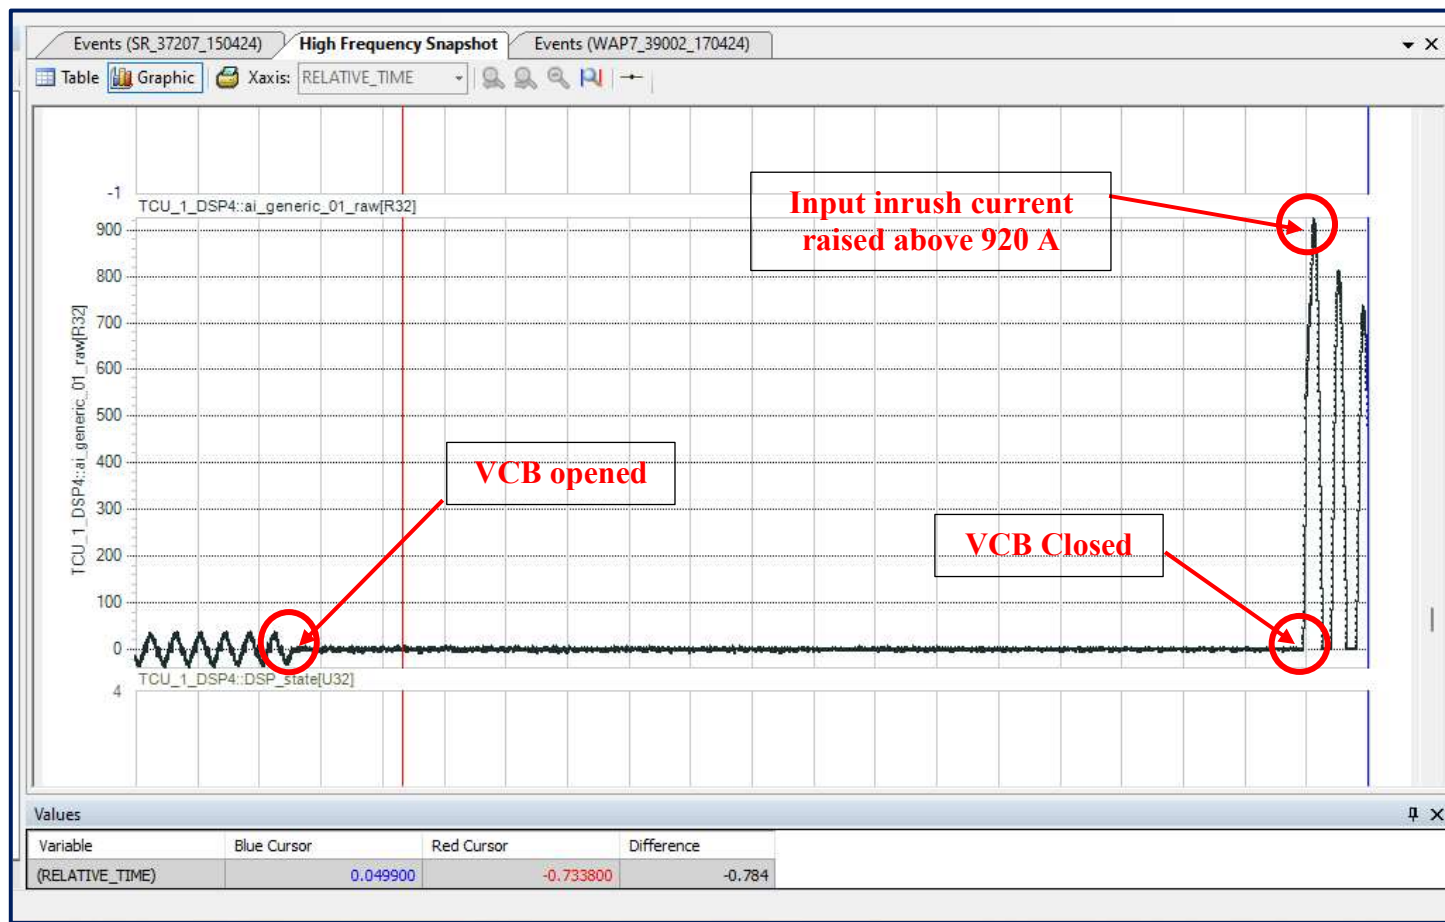
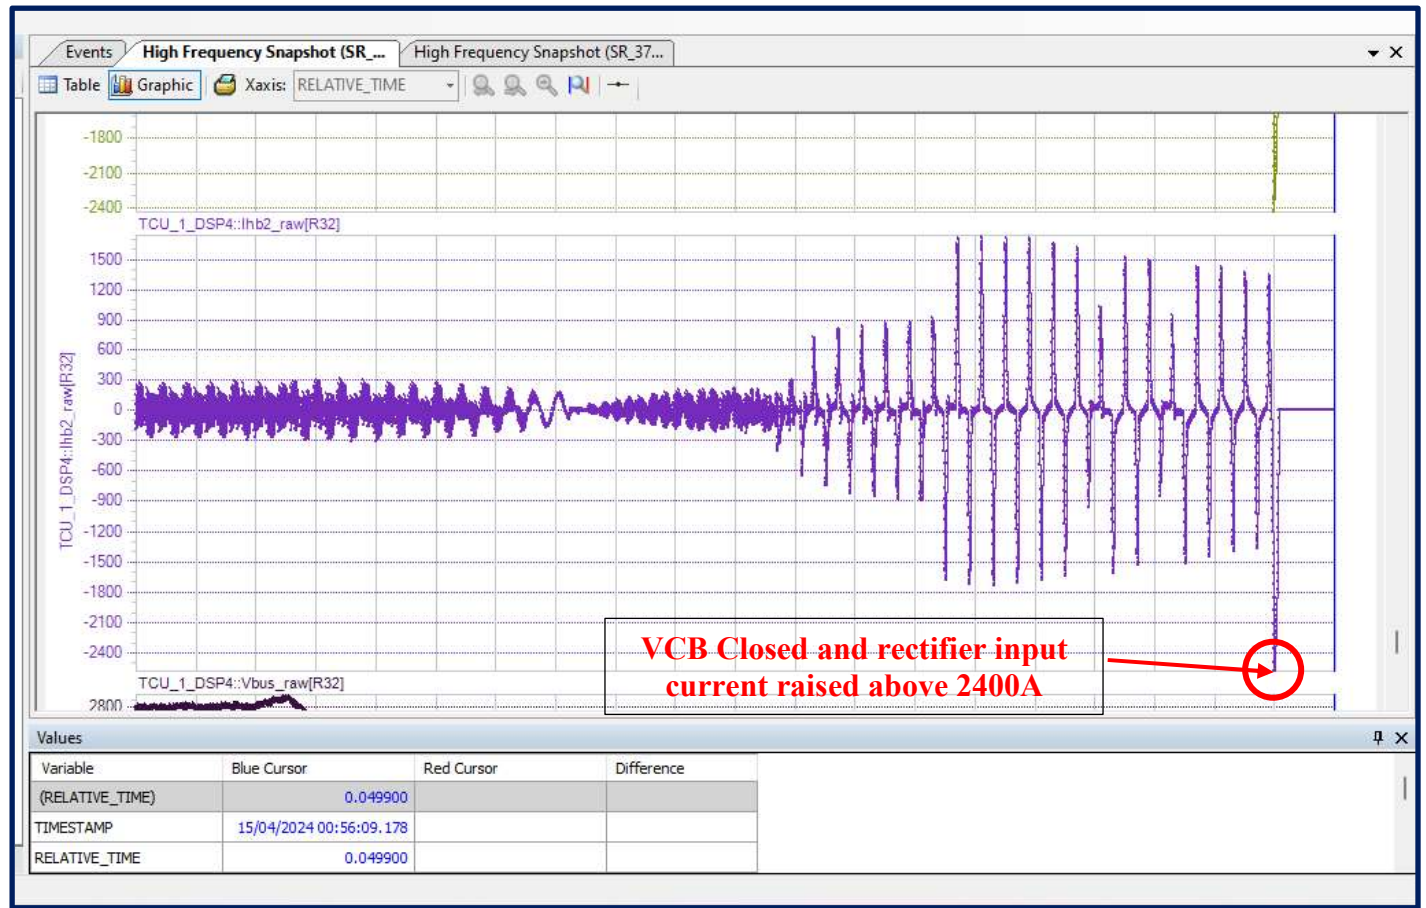

Figure 2: Input Current at the time of OCR action
Figure 3: Rectifier Current at the time of OCR action
2. It is noticed that Rectifier Line 1 & 2 over current logged from both the SR's for several times during VCB reclosing time. As per SR data at the time of OCR action, input inrush current has gone beyond 960 A (Figure 2) and rectifier over current also logged (Figure 3).